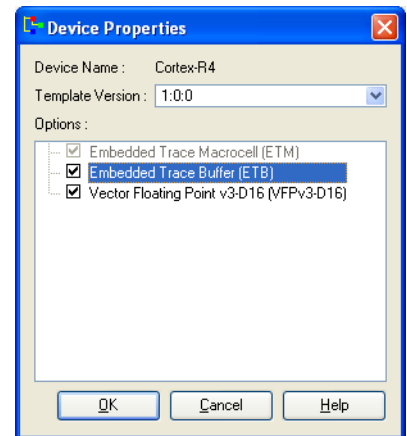

Figure B-7 Device Properties dialog box
5. Select **Properties...** to display the Device Properties dialog box. Figure B-7 shows an example: